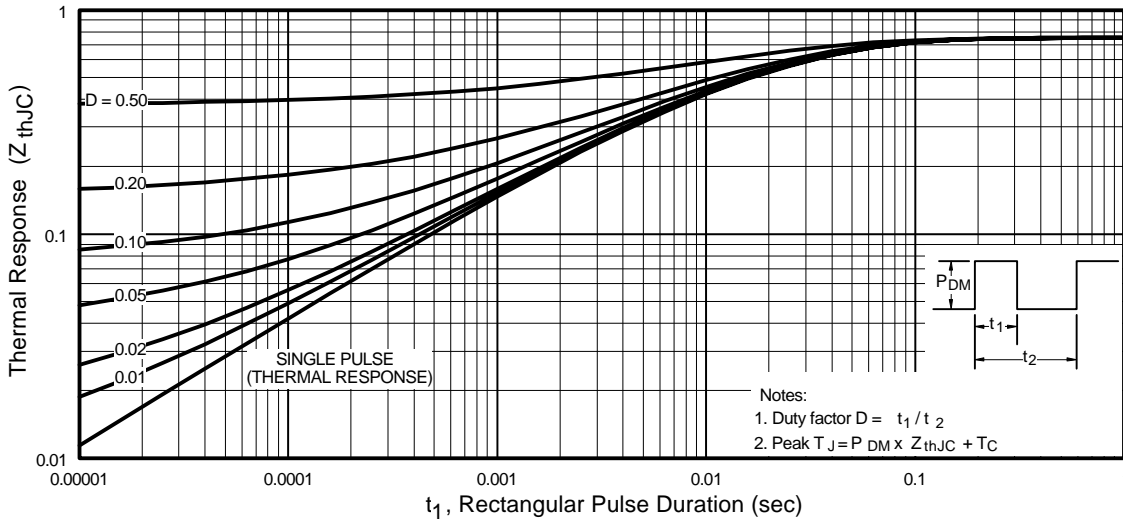

Fig 11. Maximum Effective Transient Thermal Impedance, Junction-to-Case
- ① Repetitive rating; pulse width limited by max. junction temperature. (See fig. 11)
- ② Starting TJ = 25°C, L = 0.23mH